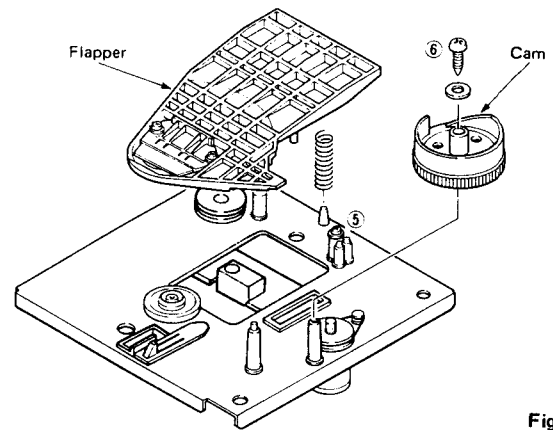

Fig. 5
- a. Loosen screw (⑤) fixing Flapper in fig. 5 and then remove the Flapper.
- a. Remove screw (⑥) in fig. 5 and then pull up the Cam.